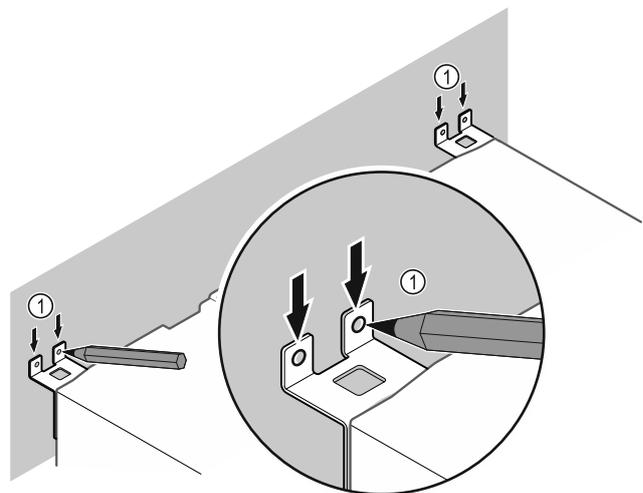

Fig. 51
- ▶ Make markings on the wall Fig. 51 (1).